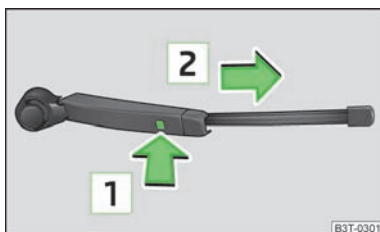

Fig. 51
- Fold the windshield wiper arm away from the windshield and position the wiper blade at a right angle to the wiper arm » Fig. 51.